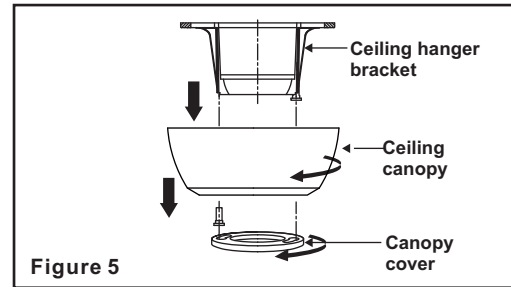

Figure 5
Step 1. Remove the decorative canopy bottom cover from the canopy by turning the cover counter clockwise.(Fig. 5)
Step 2. Remove the mounting bracket from the canopy by removing 1 of 2 screws from the bottom of the mounting bracket and loosening the other one a half turn from the screw head. Next, turn the canopy counter clockwise to removing the mounting bracket from the canopy. (Fig. 5)